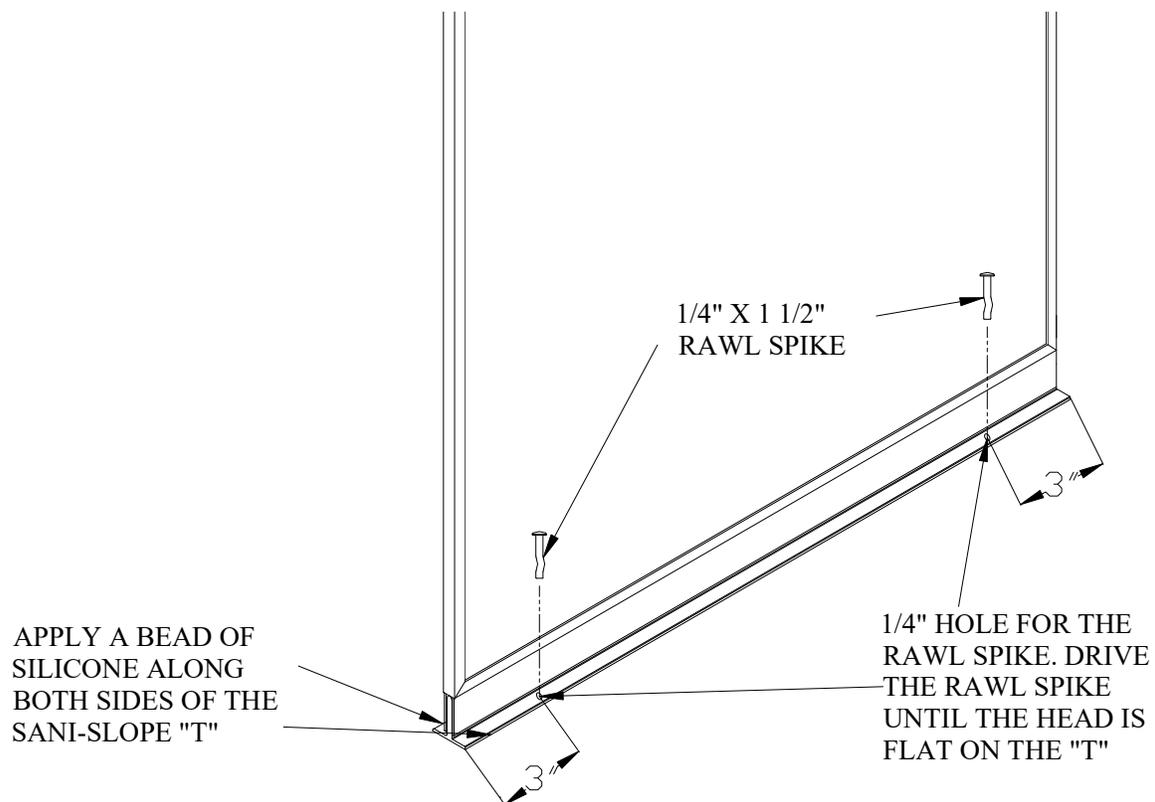

Figure 15
3. Repeat steps F-1 and F-3 for all hole locations shown in Figure 15.
2. Apply a thin bead of sealant provided along the seam created between the “Sanislope T” and the concrete as shown in Figure 15 above.